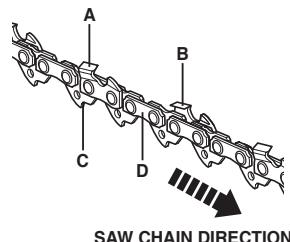

Fig. 19
- Keep all cutter lengths equal (Fig. 19). Each time the cutting tip is sharpened the cutting length is reduced. When the cutter length is reduced to 0.16 inch (4 mm), the chain is worn out and should be replaced.